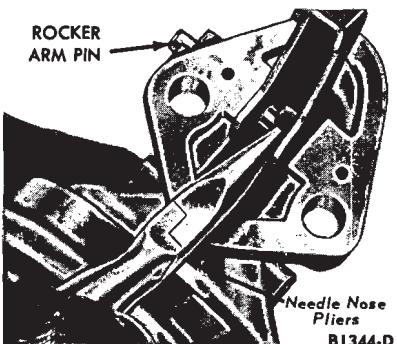

FIG. 6—Rocker Arm Pin Removal or Installation
2. Release the tension on the rocker arm pin by pressing the arm downward against the diaphragm and rocker arm spring pressure or remove the rocker arm spring and allow the rocker arm pin to fall out. If the pin does not come out freely, tap the fuel pump assembly lightly on the bench until the pin sticks out of the bore or remove the pin with needle nose pliers (Fig. 6). Remove the rocker arm.
5. Press the fuel pump diaphragm into the fuel pump body to release the tension on the rocker arm and allow the rocker arm pin to fall out. If the pin does not come out freely, use needle nose pliers (Fig. 6).